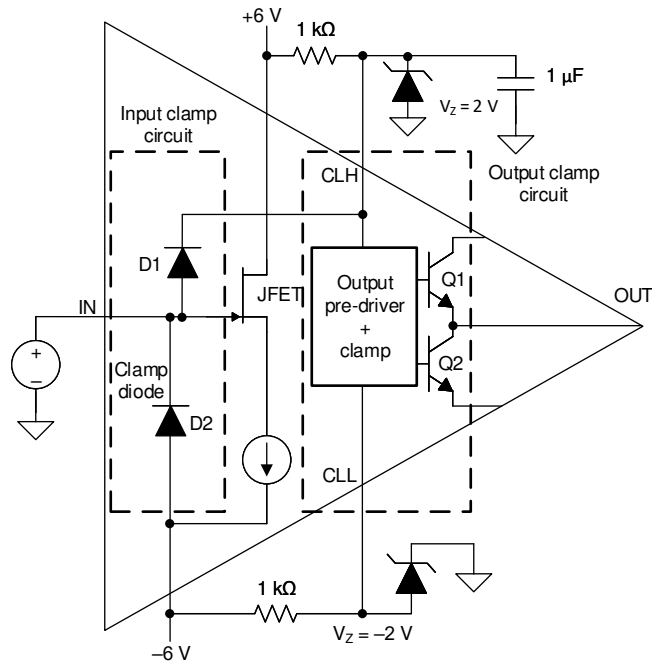

Figure 8-2. Internal Input and Output Over-Voltage Clamp
- Figure 8-2 shows the input of the BUF802 tied to pins CLH and V_{S-} through two internal clamp diodes, D1 and D2. The diodes are rated for 100 mA of continuous current but can withstand much higher transient currents. If the JFET input voltage exceeds the voltage at CLH or V_{S-} , the diodes get forward biased, clamping the JFET to CLH and V_{S-} . A 1 μ F capacitor connected in parallel to the zener diode, helps in transient absorption travelling through the D1 diode.